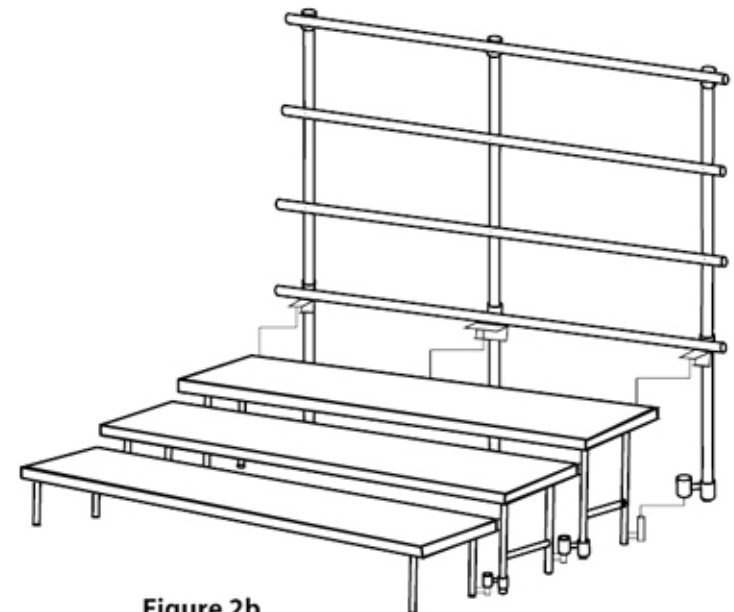

Figure 2b
Step 4: Align the assembled back rail with the legs of the top level of the riser set. Attach the back rail connectors to the riser set by sliding the connector over the receiver tube on the back legs (see figure 2b).